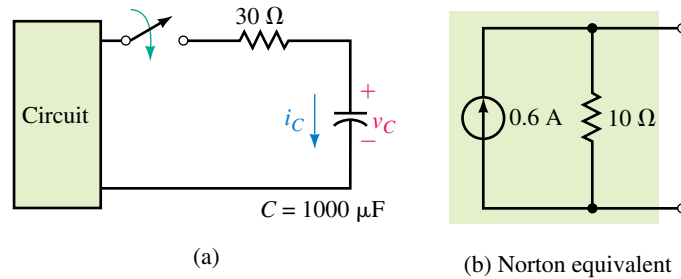

FIGURE 11–33 Hint: Use a source transformation.
5. The switch of Figure 11–33(a) is closed at $t = 0$ s. The Norton equivalent of the circuit in the box is shown in (b). Determine expressions for v_C and i_C . The capacitor is initially uncharged.